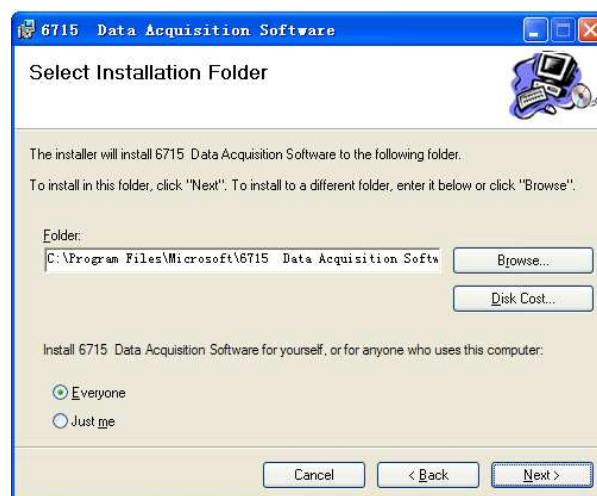

Figure2-2
2) Then the screen shown in Figure2-2 appears. Press "Next"after you select a folder to install this software.